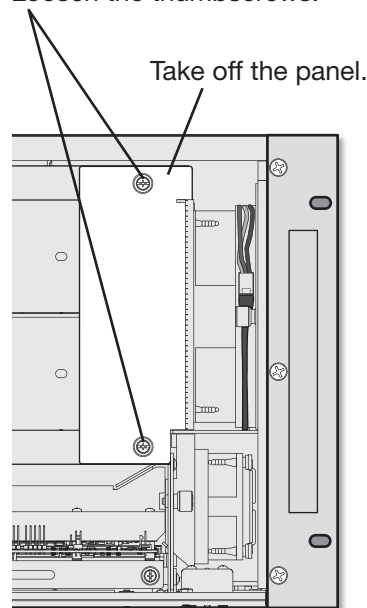

Figure 104. Removing the Cover Panel
1. Use a screwdriver to loosen the two thumbscrews on the cover panel and remove the panel (see figure 104).